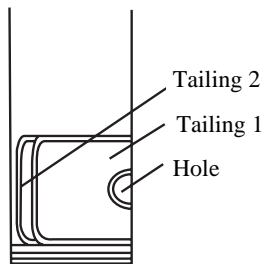

Fig. 11-7
(1) Refer fig. 11-5 and 11-6 for piping type of indoor unit. When routing the piping and wiring from left or right side of indoor unit, cut off tailings left from pipe from base of main unit in necessary (as shown in fig.11-7).